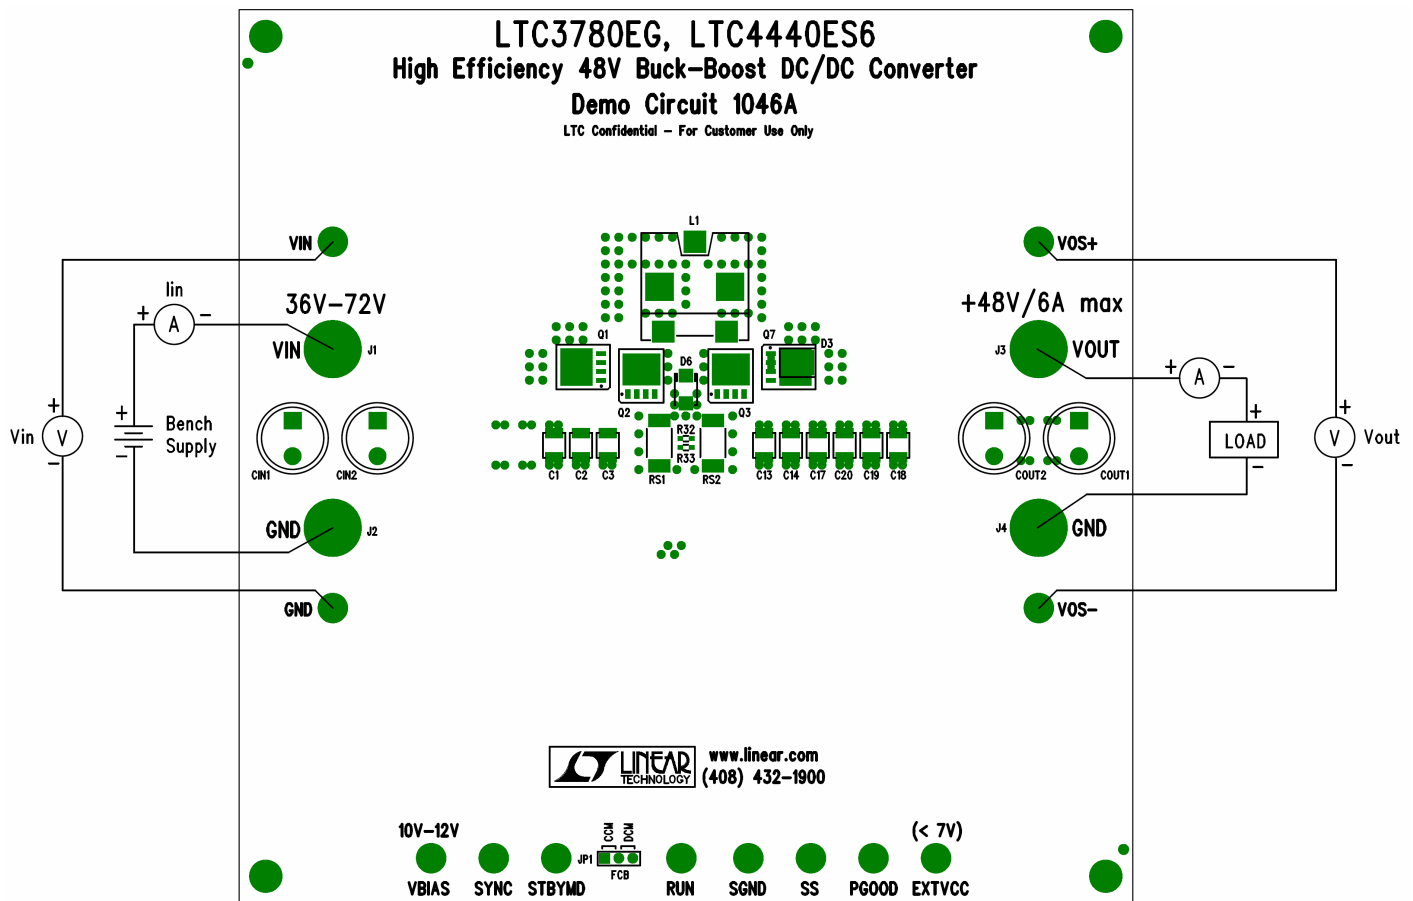

Figure 1. Proper Measurement Equipment Setup
Demonstration circuit 1046A is easy to set up to evaluate the performance of the LTC3780EG. Refer to Figure 1 for proper measurement equipment setup and follow the procedure below:
1. With power off, connect the input power supply to VIN and GND. Connect the load between VOUT, and GND. Preset the load current at 0A (minimum). Refer to Figure 1 for correct test set up. The default position of FCB jumper JP1 is CCM.